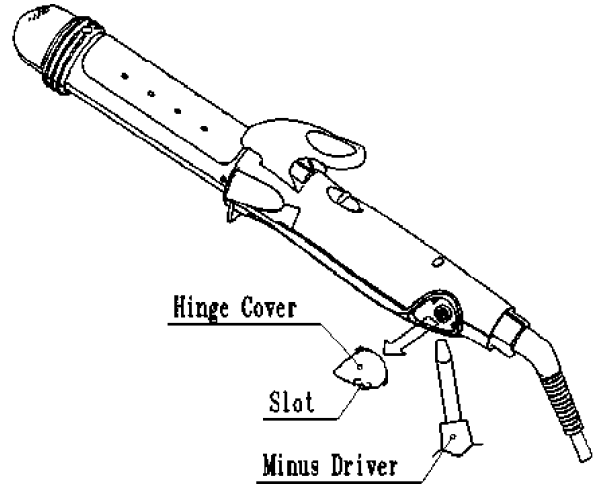

Figure 2
2. Remove the Hinge cover by use minus driver put into Hook as shown in Figure 2.